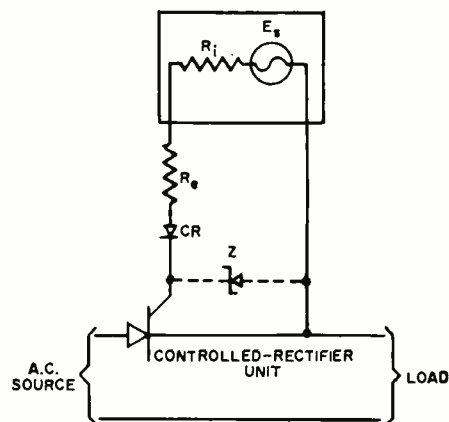

Fig. 2. Schematic showing equivalent circuit.
For example, consider a 2N681 controlled-rectifier operating in half-wave service with the gate driven by an in-phase sinusoidal signal as shown in Fig. 2. The negative half-cycle of gate signal is blocked by silicon diode (CR) so that